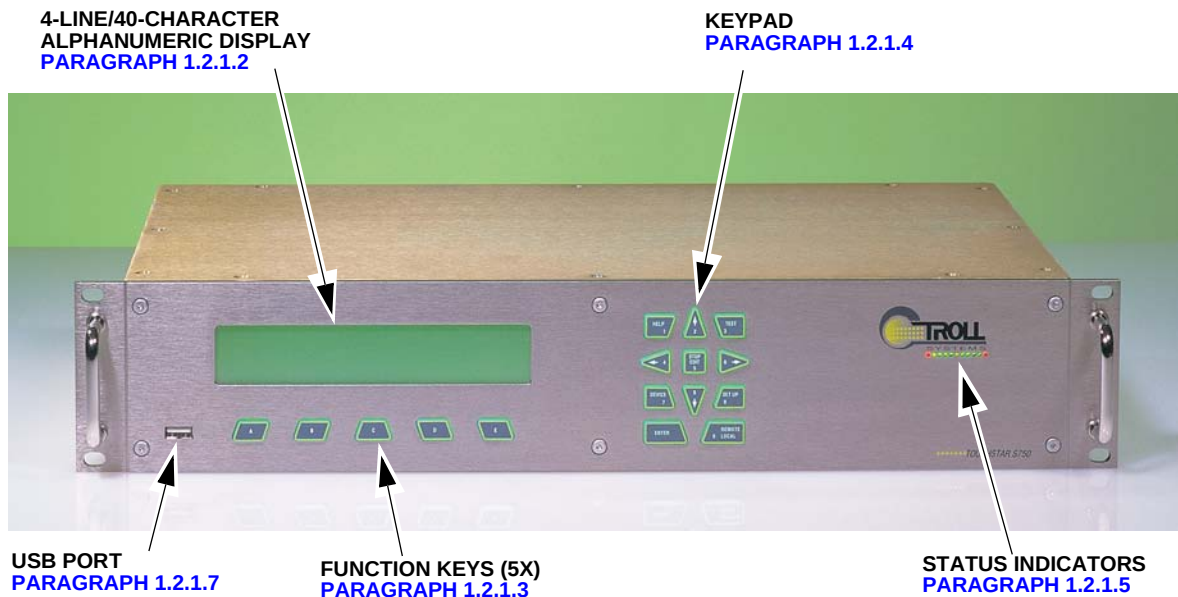

Figure 1-2. S750 Remote Site Controller – Front Panel Elements
The S750's front panel (Figure 1-2) includes five (5) key elements that are identified in the figure and discussed in the following subparagraphs. These items are summarized below.